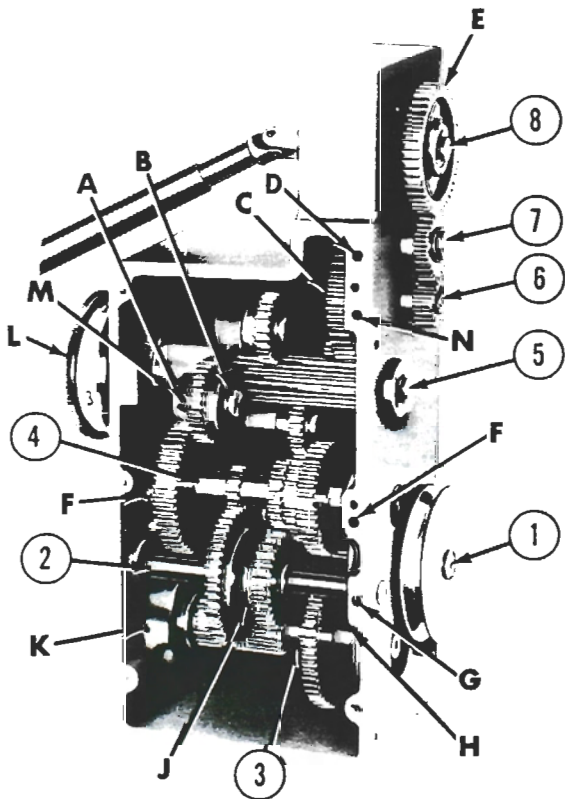

Figure 42
NO. 1 SHAFT (fig. 42), loosen set screw (H), and pull shaft out right side of gear box.